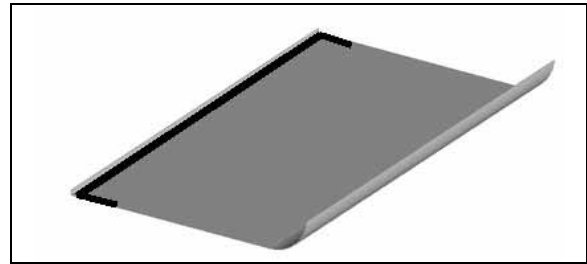
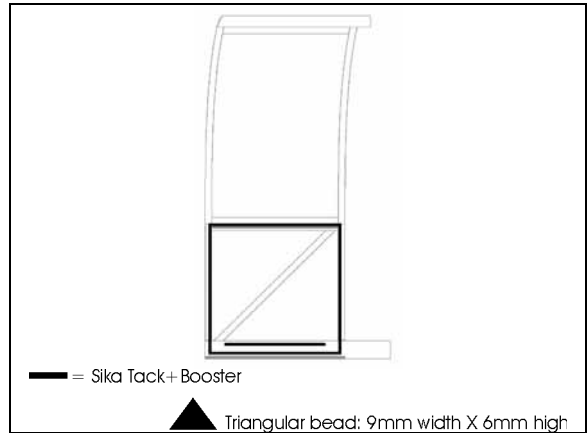
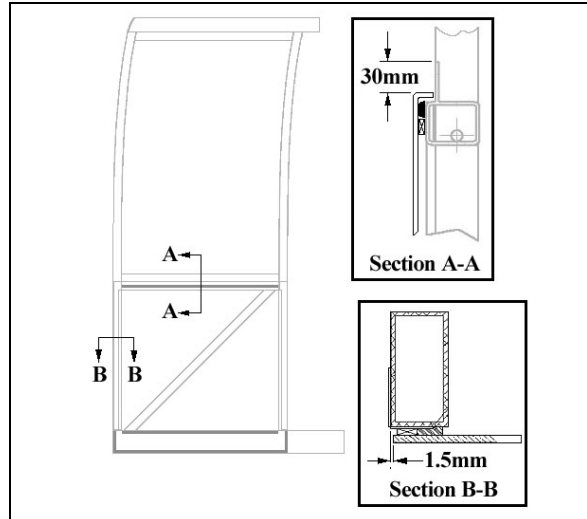

FIGURE 46 : SIDE PANEL INSTALLATION – SIKa 221 OR 252 APPLICATION ON SIDE PANEL
FIGURE 47 : SIDE PANEL INSTALLATION – SIKa TACK+BOOSTER APPLICATION
FIGURE 48 : SIDE PANEL INSTALLATION
8. Apply a 5mm diameter bead of Sika 221 or 252 on side panel as shown on FIGURE 46; Apply Sika Tack+Booster (triangular bead: 9mm width X 6mm high [11/32"x1/4"]) as shown in Figure 47 and glue panel in place as shown in FIGURE 48. Do not remove the tape blue protective layer;